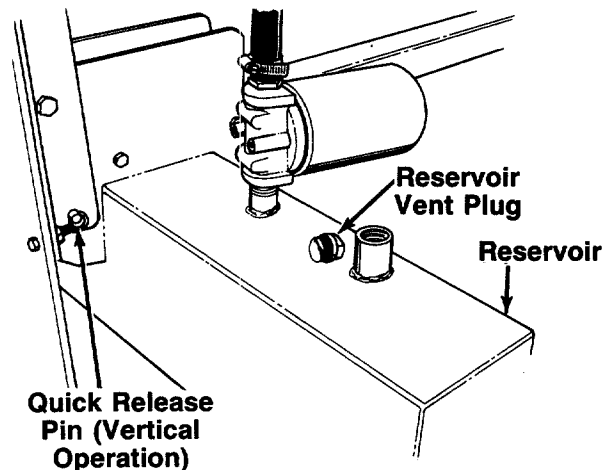

FIGURE 14.
- Place log splitter on a firm, level surface. For vertical operation, remove the quick release pin from the latch bracket. Place the beam in the vertical position. Place the quick release pin through the holes in the beam mounting plates and the brackets on the reservoir tank. See figure 14.
- a. Remove reservoir vent plug. See figure 14. Using Dexron II automatic transmission fluid, fill reservoir to the top. Replace vent plug securely.